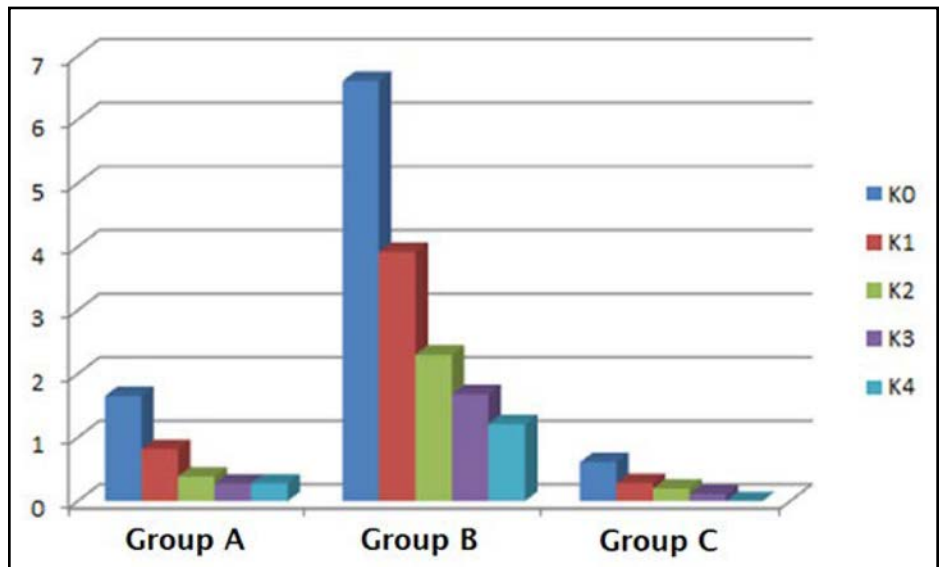

Figure 2A DIN 50602 K0—K4 cleanliness (OA+OG) results for the three sample groups.
high-resolution ultrasonic testing. The key metrics for the oxide inclusion populations were total oxide area; area of large oxides; oxide stringer length; and area (all normalized by sample inspected area). Key metrics for sulfide inclusions included total sulfide area and area of large sulfides. Statistics of extreme values (SEV) analysis was also performed to provide additional information about the inclusion populations. To provide a description of the oxide and sulfide populations of the three sample groups in terms of an industry standard, the data from the SEM image analysis was configured to generate DIN 50602 values (K0 – K4). The measured values for inclusion population metrics are provided in Tables 2A and 2B. The respective DIN 50602 oxide (OG+OA) and sulfide (SS) plots are shown (Figs. 2A and 2B).
The inclusion evaluation showed that the relationship between total oxide area and oxygen content of the steel was approximately linear. Group B had about twice the total oxygen content, as well as about twice the total oxide area, as compared to Groups A and C. However, the concentration of large oxide inclusions ($\sqrt{\text{Area}} > 10$ or $> 20 \mu\text{m}$) was significantly higher in Group B, and was not proportional to oxygen content. For example, the concentration of oxides greater than $10 \mu\text{m}$ was about nine times higher in Group B, compared to Group C (Table 2A). This lack of proportionality was also illustrated by the DIN 50602 K0 – K4 cleanliness (OA + OG) results (Fig. 2A). Furthermore, although Groups A and C had the same oxygen content (7 ppm), Group A had a higher concentration of large oxide inclusions and higher DIN 50602 K0–K4 cleanliness (OA + OG) results. These results indicate that the concentration of large oxides does not necessarily depend on the oxygen content. Therefore, the oxygen content does not fully predict the nature of the oxide inclusion population.